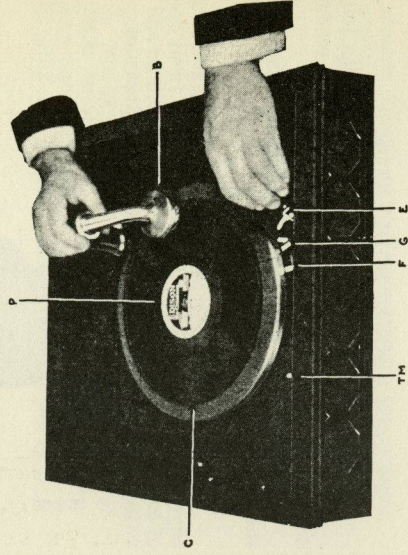

Fig. 5
1. To make tone soft, push the tone modulator slide (T. M. Fig. 5) toward the right.